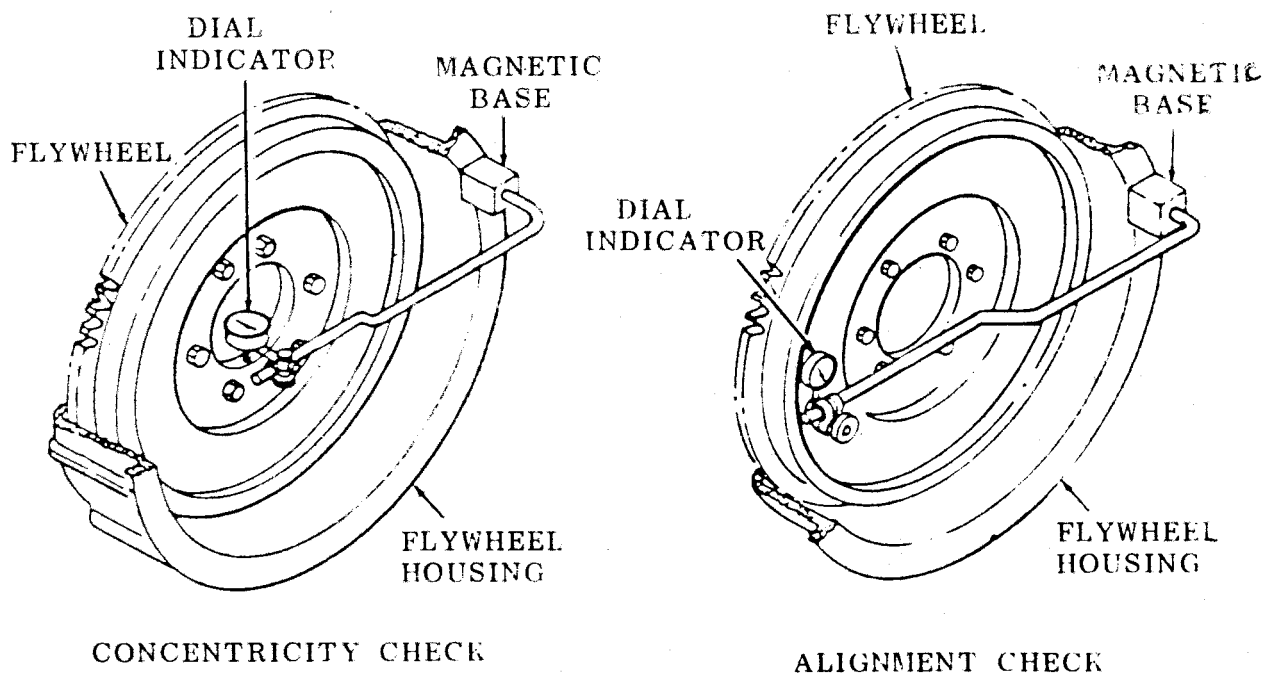

Figure 12-2. Checking Flywheel Concentricity and Alignment.
- (1) Turn crankshaft to top dead center (TDC) position.
- (2) Attach a dial indicator to flywheel housing and position so that foot rides on inner face of pilot bore (fig. 12-2).
- (3) Set dial indicator pointer to zero position.
- (4) Slowly rotate crankshaft one complete revolution.
- (5) Concentricity of pilot bore shall not vary 0.005 inch total reading.
- (6) Position dial indicator so that foot rides on outer face of flywheel (fig. 12-2).
- (7) Set dial indicator pointer to the "zero" position.
- (8) Slowly rotate crankshaft one complete revolution.
- (9) Alignment of flywheel shall not vary more than 0.005 inch total reading.
- (10) Replace flywheel if the above test requirements cannot be met.